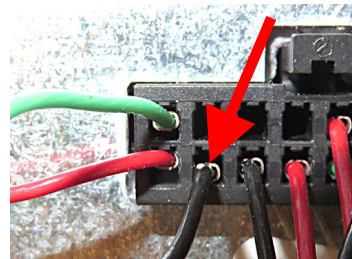

Figure 22
27. Insert the **BLACK** wire into the position directly to the right of the red wire inserted in step 25 (pin 7) (see Figure 22).